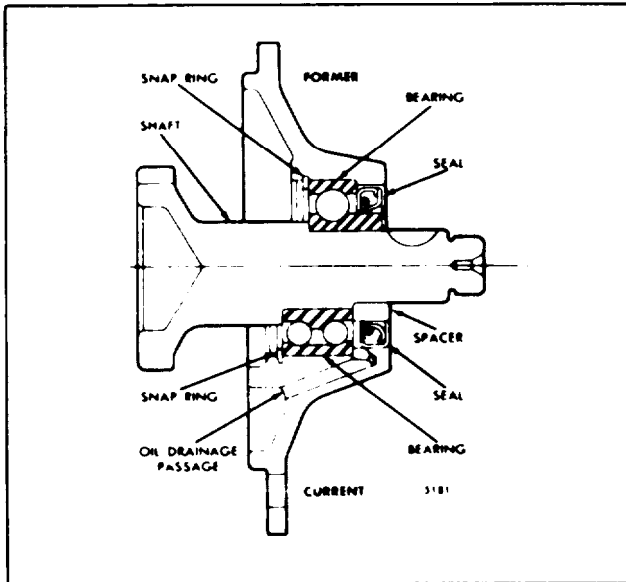

Fig. 7 Former and Current Drive Plate Type Accessory Drive
**NOTE:** On former accessory drives (Fig. 7), install the bearing with the protruding face of the inner race towards the retainer.